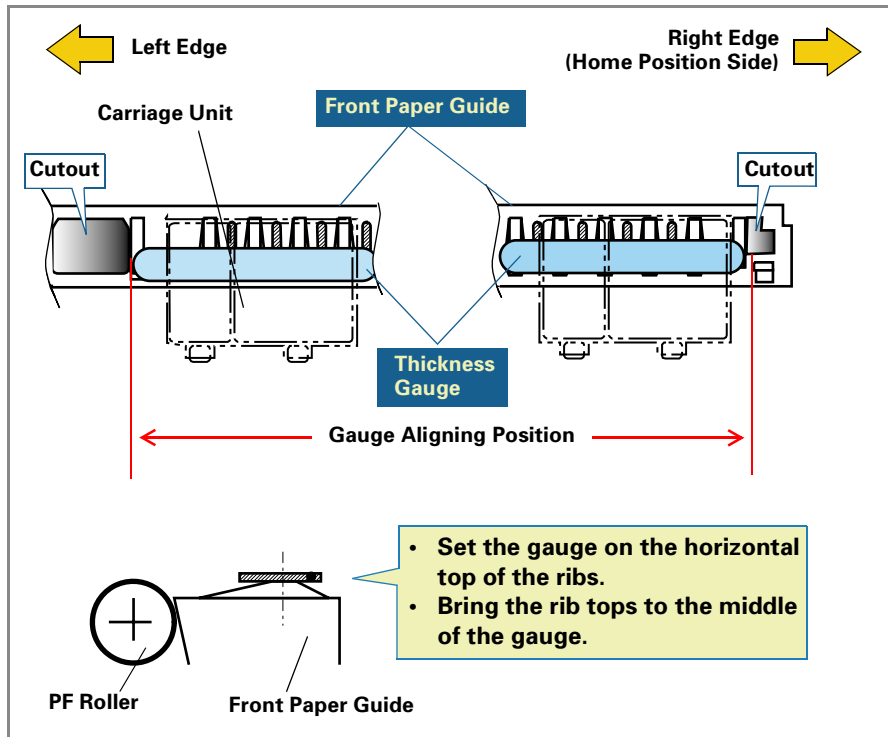

Figure 5-2. Placing the Thickness Gauge
2. Bring the PG lever forward to set it to the (0) position.
- Bring the carriage to the center of the printer mechanism. Then place the thickness gauges (1.14 mm) on the front paper guide aligning them with the right and left square cutouts in the front paper guide. (See Figure 5-2.)